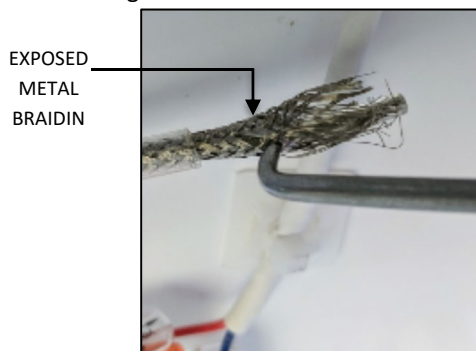
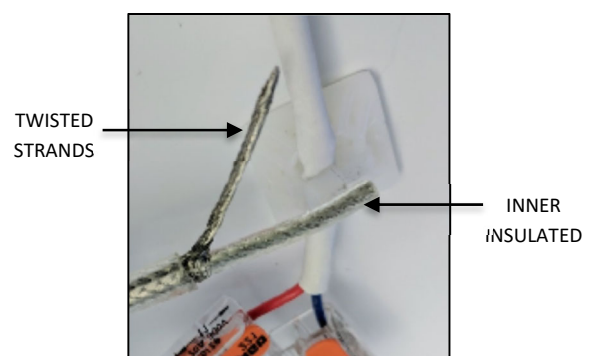

FIG. 35
FIG. 36
- Using a small pointed object, begin unweaving the exposed metal braiding as shown in FIG. 35 below. Position the unwoven metal strands on one side of the inner insulated wire and twist the individual strands together as shown in FIG. 36 below.